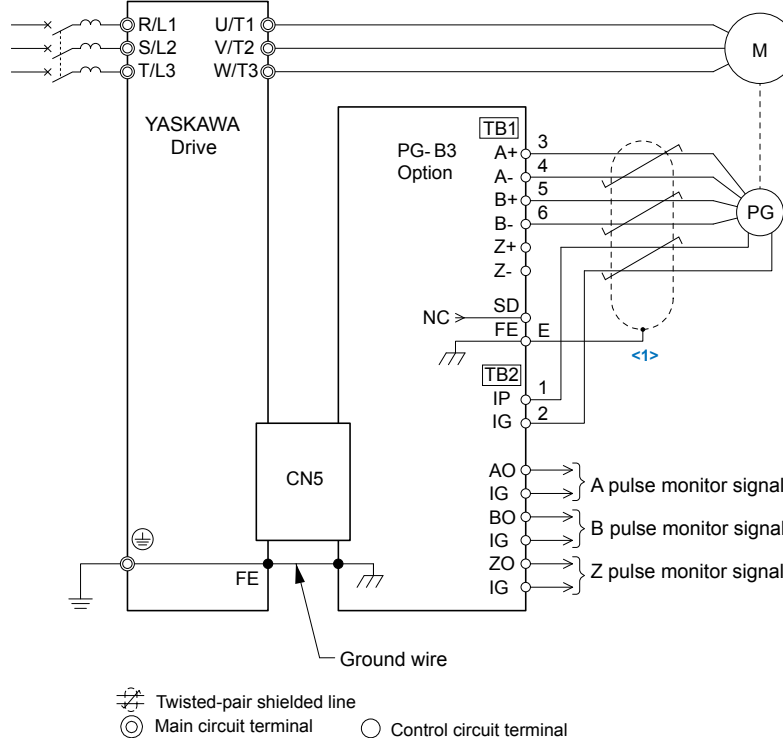
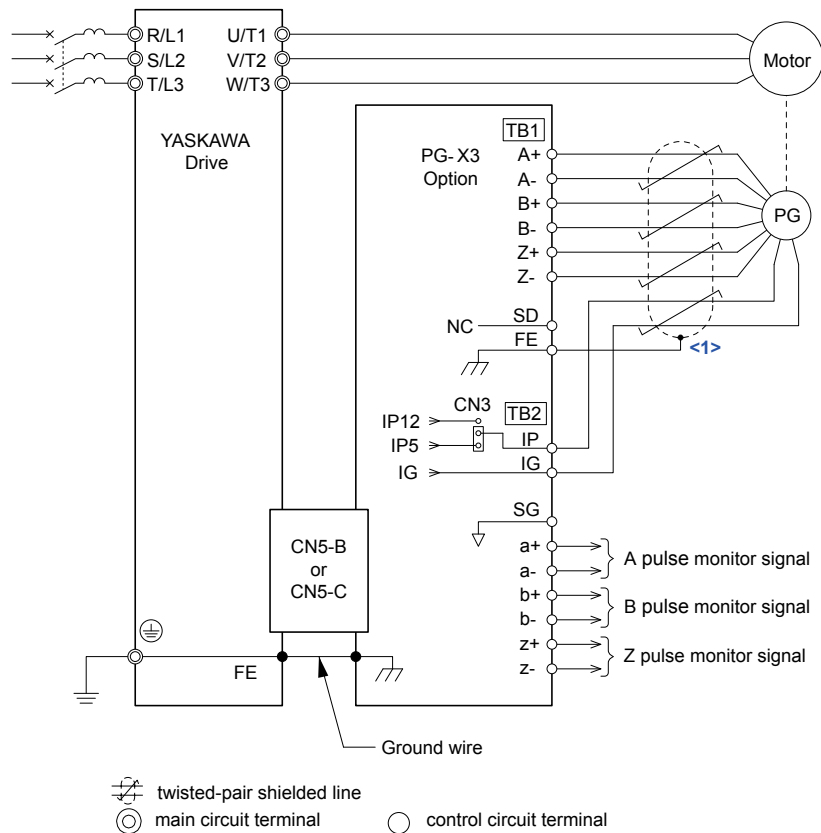

Figure 8.9 PG-B3 Option and Encoder Connection Diagram
Figure 8.13 PG-X3 Option and Encoder Connection Diagram
- Wiring the motor PG encoder to the terminal block on the option. Refer to Figure 8.9 and Figure 8.13 for wiring instructions.